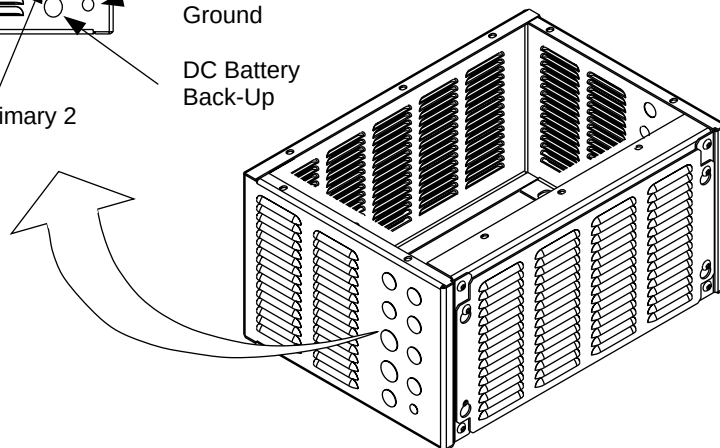
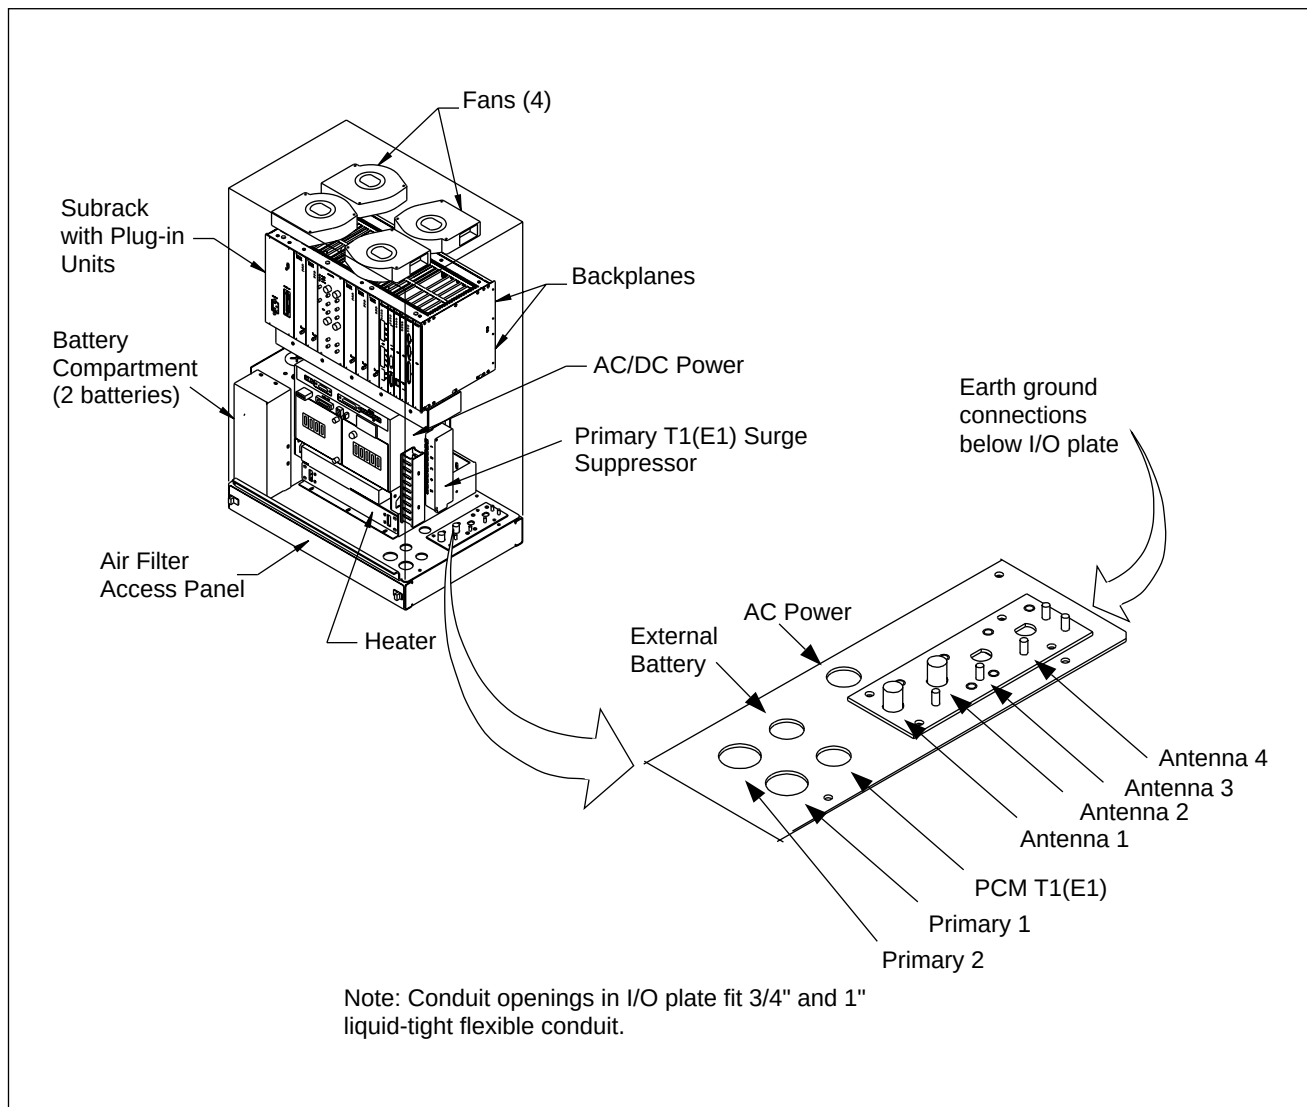

Figure 4-17. Pedestal Mount
Figure 4-18. Cabinet I/O Plate
1. Using a tamper resistant wrench, remove the front panel from the pedestal base so cables or conduit can be routed to the cabinet. See Figure 4-17 on page 4-36
2. Route the T1(E1) conduit into the base of the cabinet. See Figure 4-17 on page 4-36 and Figure 4-18 on page 4-37.
3. Route the antenna cables into the base of the cabinet. See Figure 4-17 on page 4-36 and Figure 4-18 on page 4-37.
4. Verify that the AC power conduit and earth ground have been routed into the base of cabinet. See Figure 4-17 on page 4-36 and Figure 4-18 on page 4-37.
5. Route the antenna jumper cables into the base of the cabinet and connect them to the antenna connectors on the bottom of the earthing plate. See Figure 4-18 on page 4-37.